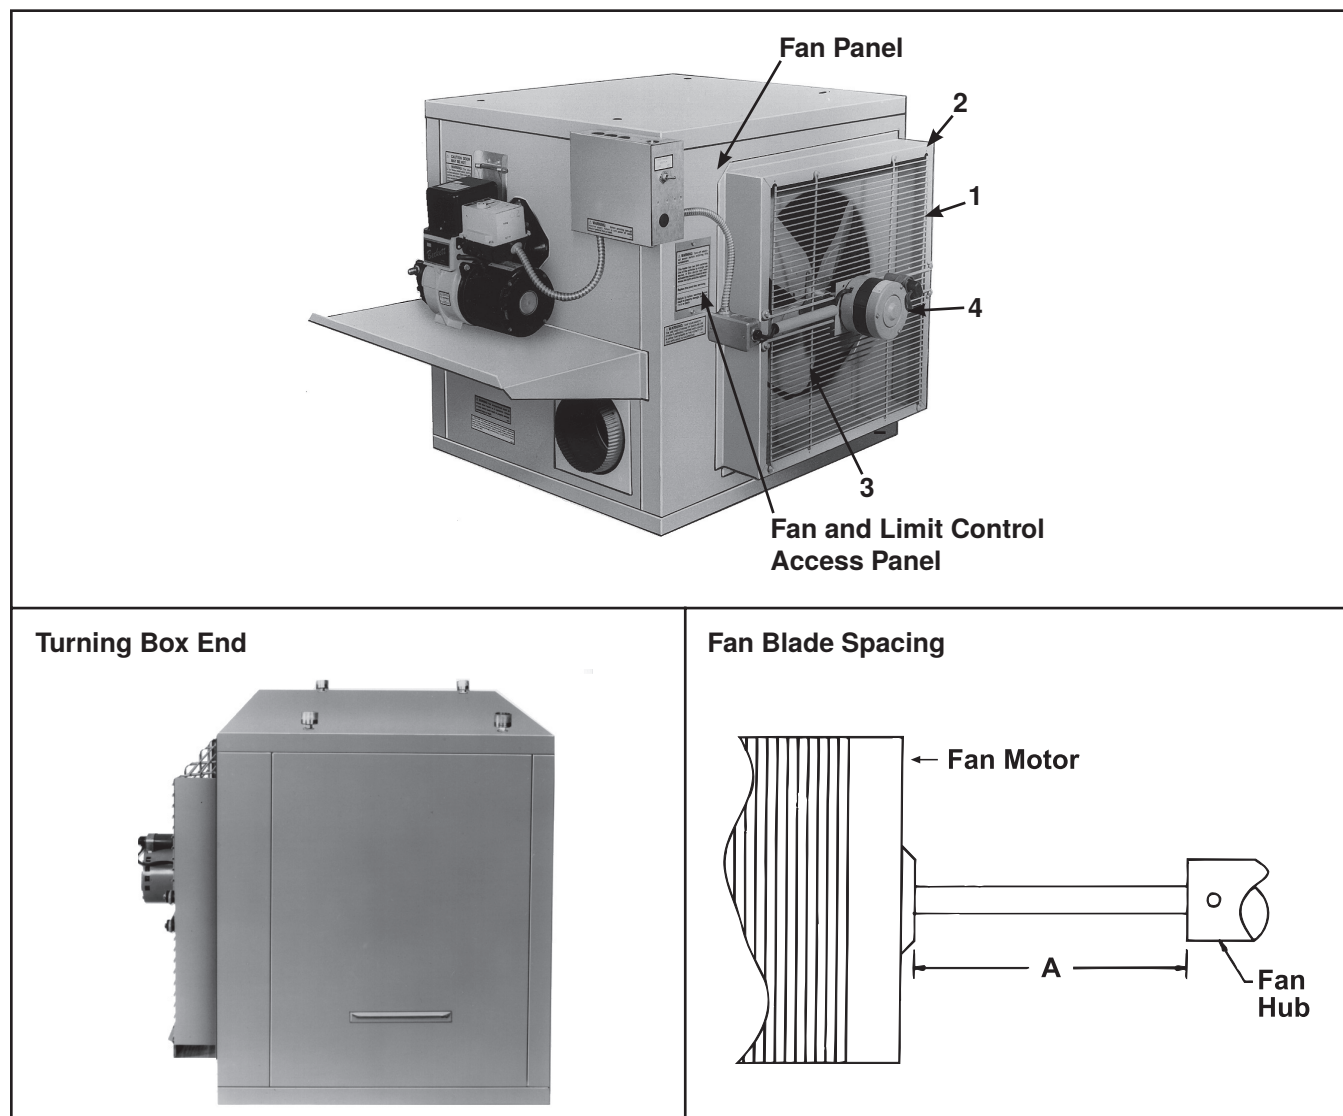

Figure 5. Fan Components for Model OH (Refer to Table 6)
*See Figure 5 for dimension A location
*See Figure 5 for dimension A location.